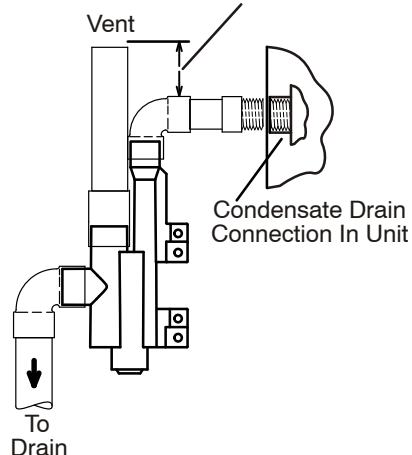

FIGURE 49
This unit is designed for either right- or left-side exit of condensate piping in upflow applications. In horizontal applications, the condensate trap must extend below the unit. An 8" service clearance is required for the condensate trap. Refer to figure 45 for condensate trap locations. Figure 49 shows trap assembly using 1/2" PVC or 3/4" PVC.
- 3 - Install the cap over the clean out opening at the base of the trap. Secure with clamp. See figure 49.
- 4 - Install drain trap using appropriate PVC fittings, glue all joints. Glue the provided drain trap as shown in figure 49. Route the condensate line to an open drain. Condensate line must maintain a 1/4" downward slope from the furnace to the drain.